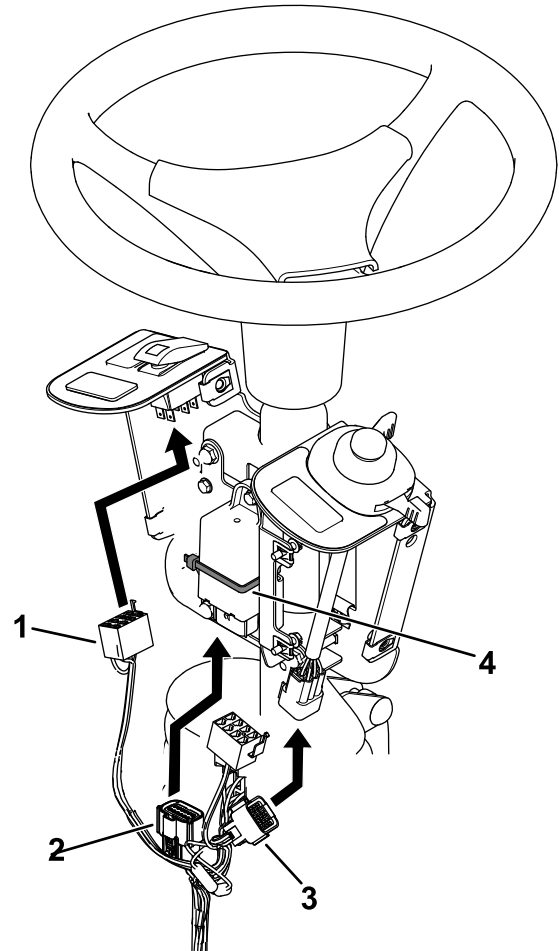

Figure 7
5. Secure the flasher using a cable tie (Figure 7).
6. Plug the harness into the rocker switch and multi-function switch (Figure 7).
7. Plug the wire harness into the flasher (Figure 7).